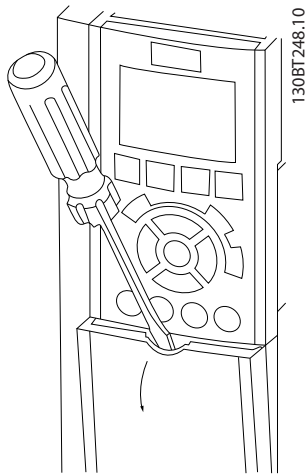

Figure 2.13 Control Wiring Access for A2, A3, B3, B4, C3 and C4 Enclosures
- Remove access coverplate with a screwdriver. See Figure 2.13.